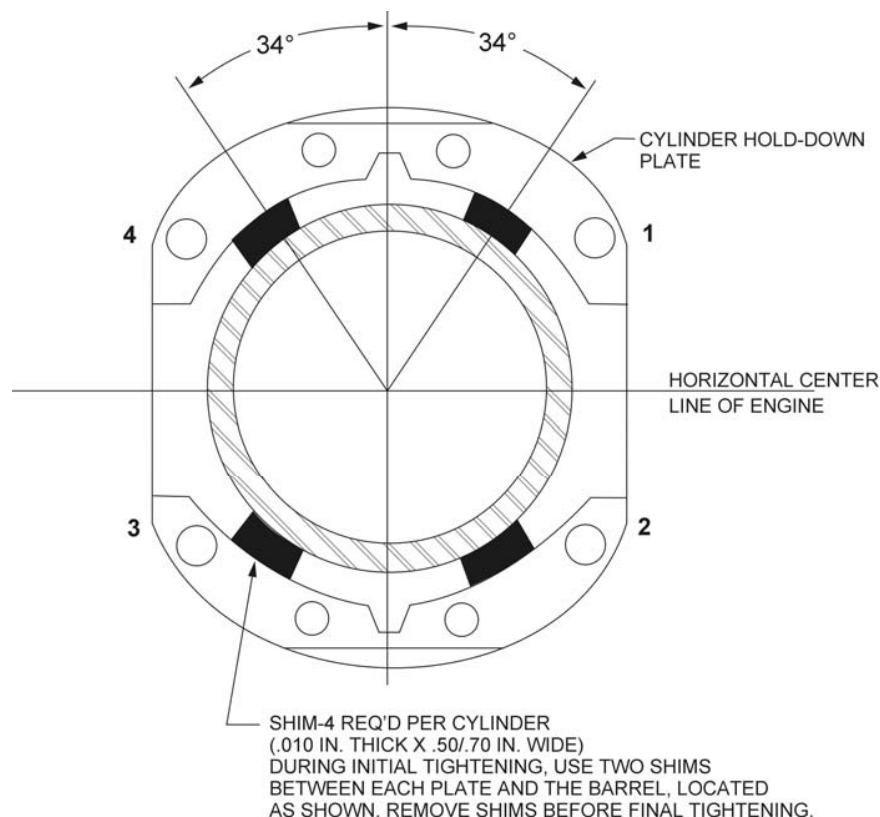

Figure 5-5. Location of Shims Between Cylinder Barrel and Hold-Down Plates (where applicable) and Sequence of Tightening Cylinder Base Hold-Down Nuts
- (a) *Engine Using Hold-Down Plates* – Install shims between cylinder base hold-down plates and cylinder barrel, as directed in Figure 5-5, and tighten ½ inch hold-down nuts to 300 in.-lbs. (25 ft.-lbs.) torque, using the sequence shown in Figure 5-5.